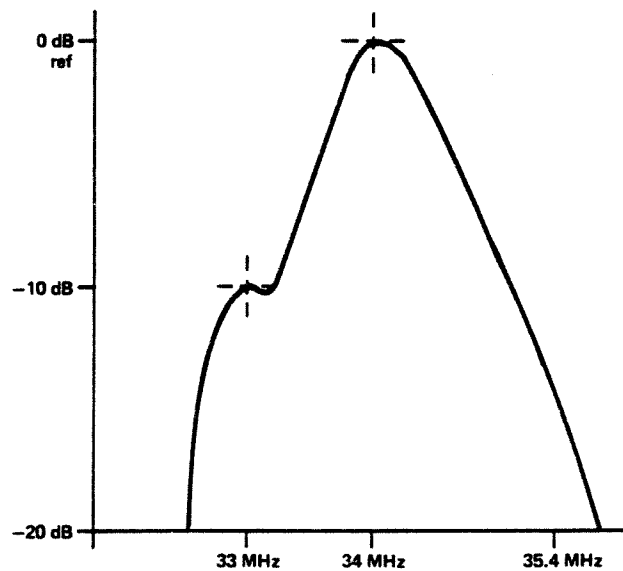

Figure 4-5. 34 MHz Filter Response Curve
6. Ensure that the response of the filter conforms to Figure 4-5.